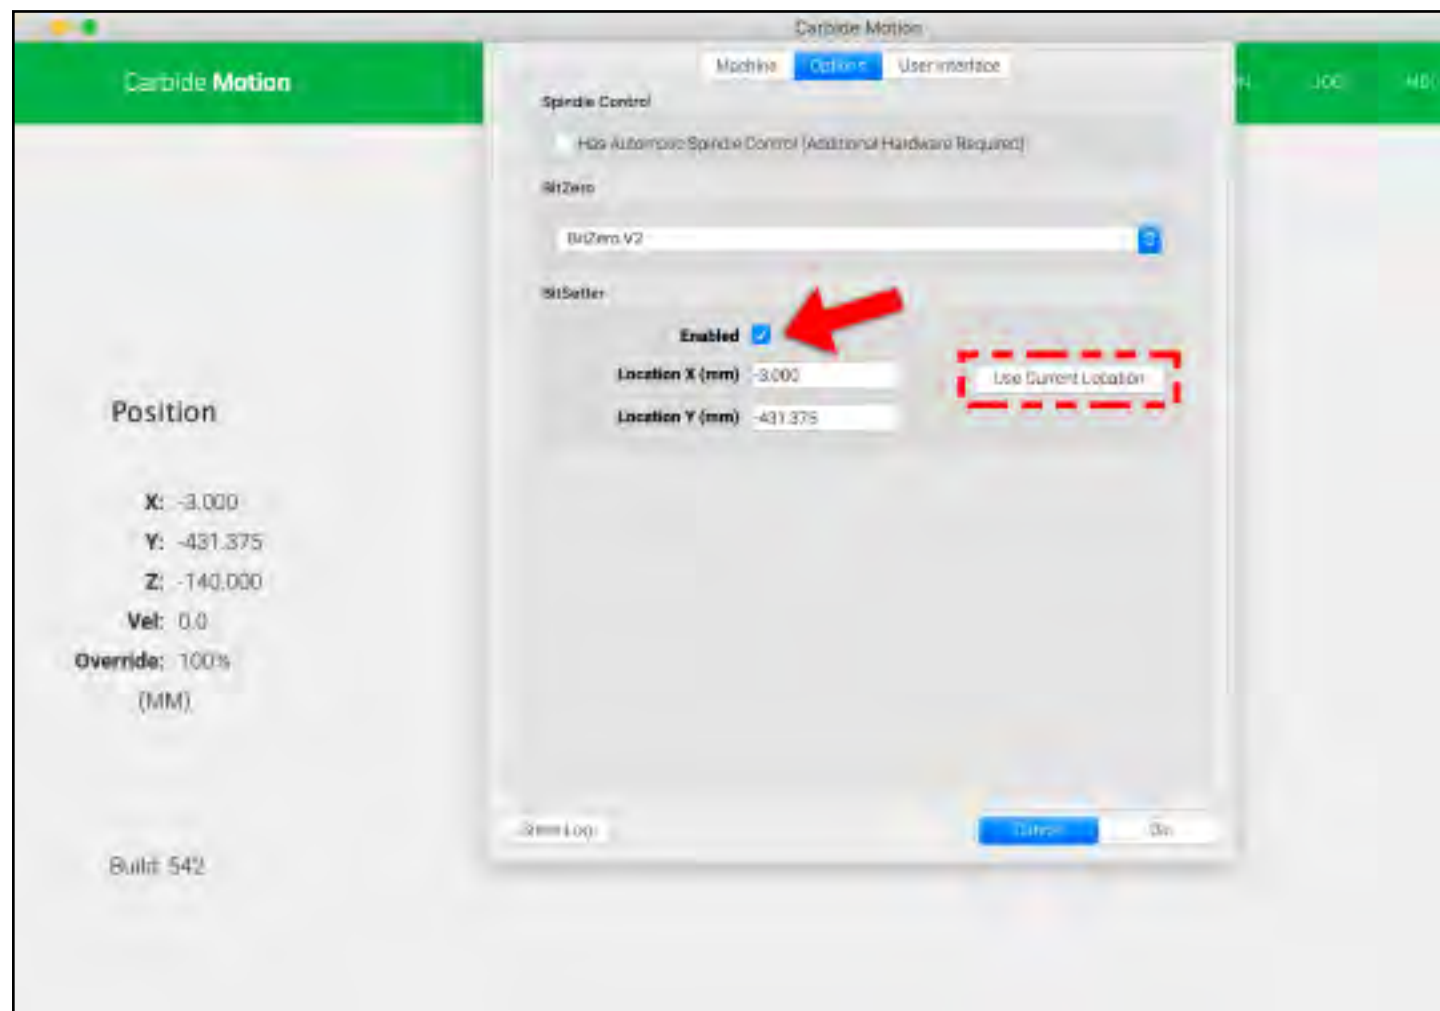

Figure 10-13
3. In the *BitSetter* section, select the **Enabled** check box. See **Fig. 10-13**.
4. Click the **Use Current Location** button to save the X/Y location of your router. See **Fig. 10-13**.